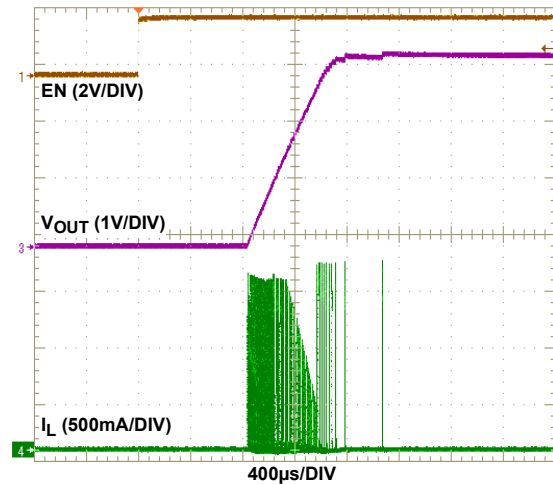

FIGURE 2. SOFT-START ( $V_{IN} = 3\text{V}$ ,  $V_{OUT} = 3.3\text{V}$ , NO LOAD)
Refer to the following Quick Setup Guide to configure and power up the board for proper operation. During the power-on process, the expected waveforms are shown in Figures 2 and 3.
7. Monitor the output voltage start-up sequence on the scope. The waveforms will look similar to that shown in Figures 2 and 3.